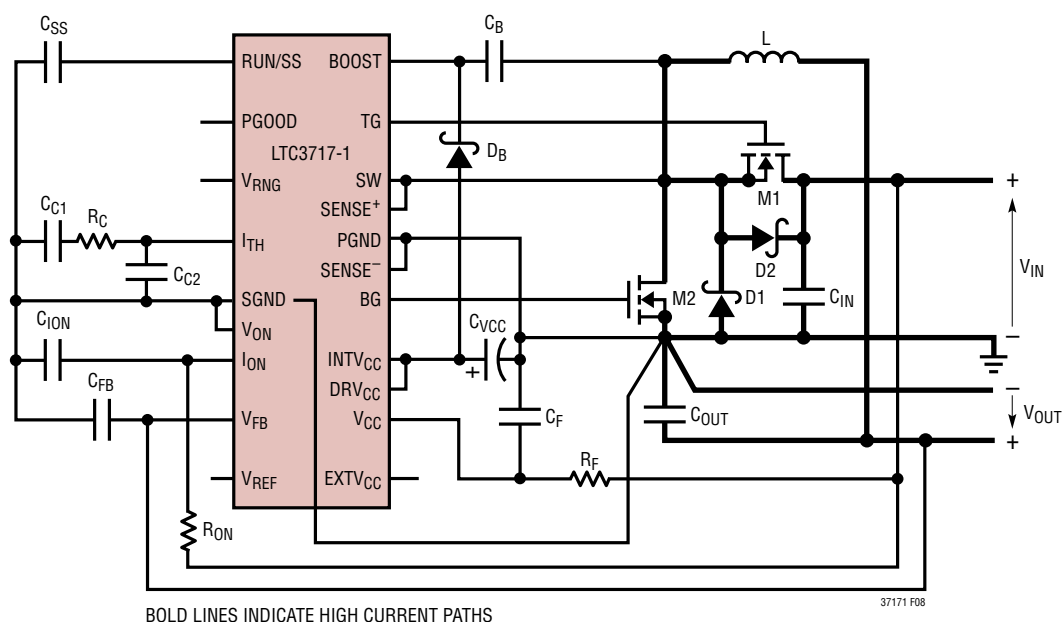

Figure 8. LTC3717-1 Layout Diagram
- Use compact plane for switch node (SW) to improve cooling of the MOSFETs and to keep EMI down.
- When laying out a printed circuit board, without a ground plane, use the following checklist to ensure proper operation of the controller. These items are also illustrated in Figure 8.